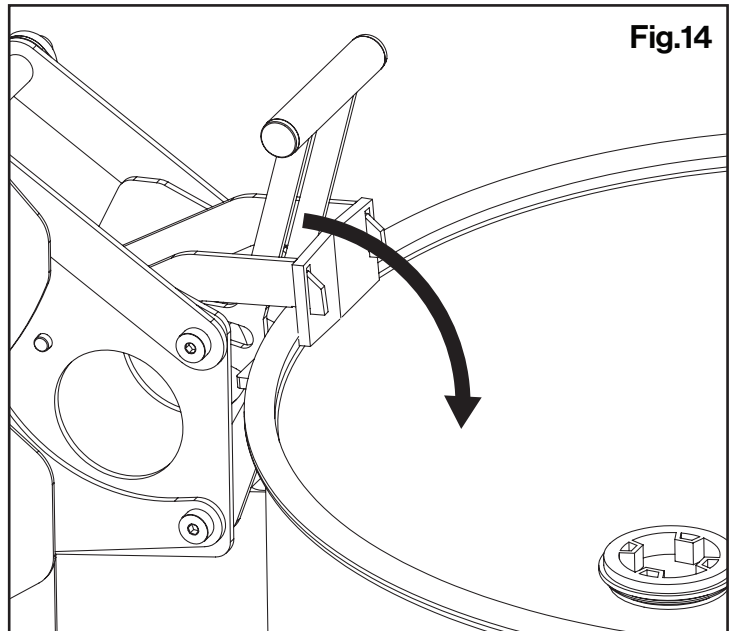

Fig.14
2. Release the handle to allow the clamp to latch onto the inside edge of the drum. **(Fig. 14)**